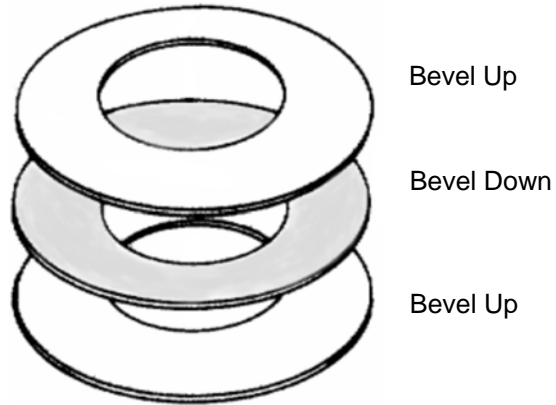
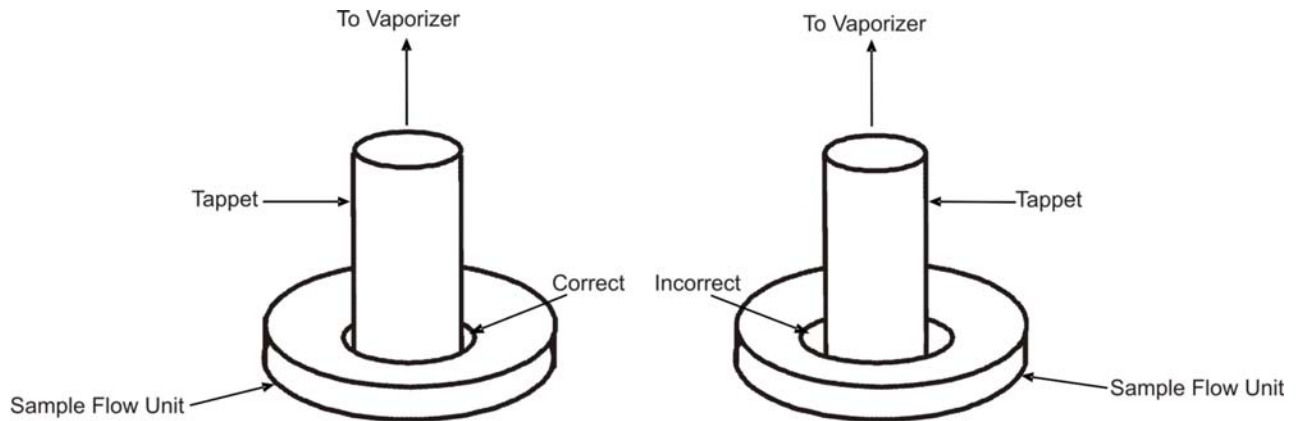

Figure 4-50: Belleville Washer Orientation
Figure 4-51: Orientation of Sample Flow Unit Hole
1.	<p>Before assembling the valve, apply a thin film of Dow Corning 44 grease to the following parts. Use Dow Corning 111 or 44 or any grease that has a temperature rating of -40 to +260 C</p> <ul style="list-style-type: none"> Internal wall of control cylinder (1) Shaft of Control Piston (3) Piston Guide hole/small O-ring (8) Outside of Large O-rings (4) following reassembly of valve body (7) and piston (3)
2.	<p>Insert the piston (3) with stem (6) into the valve body (7) such that the stem does not become greasy.</p>
3.	<p>Drop the Belleville washer plate springs next to one another over the stem into the valve body. Washers must be positioned in an alternating bevel up/bevel down manner (to form a spring). Refer to Figure 4-50 for washer orientation.</p>
4.	<p>Slide the adjustment assembly (13) with nut (11), counternut (12) and Teflon gasket (14) onto the stem.</p>
5.	<p>Insert the sample flow unit (15) into the valve body (7) over the stem (6). Refer to Figure 4-51.</p> <p>Note that the stem hole through the sample flow unit is tapered. This tapering is not readily apparent when looking at the uninstalled sample flow unit, but it will be visible when it is installed on the stem. The narrowest side of the hole in the valve body should face outward (toward the vaporizer). The narrowest side of the hole will be apparent because it will have the least spacing between the stem and the side of the hole. Refer to Figure 4-51. Newer sample flow units have this orientation marked with an arrow.</p>